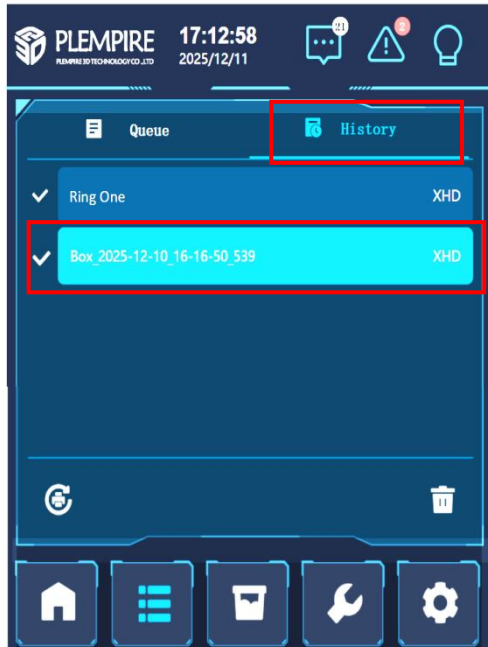

Figure 1-3 History List
- Double-click the print task to pop up the **History Job** information bar, as shown in Figure 1-3.